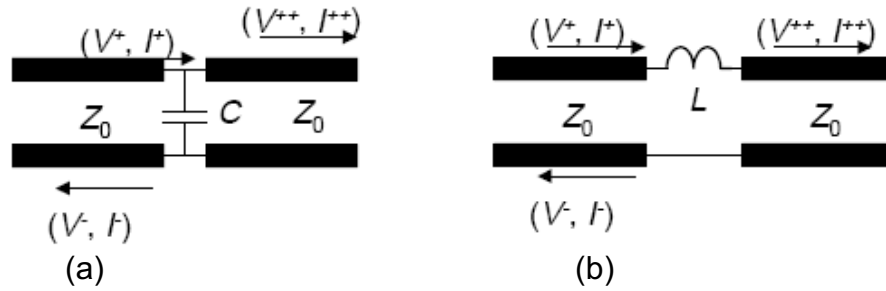

Fig. 5 – Capacitive (a) and inductive (b) discontinuities.
- An inductive discontinuity (Fig. 5.b).